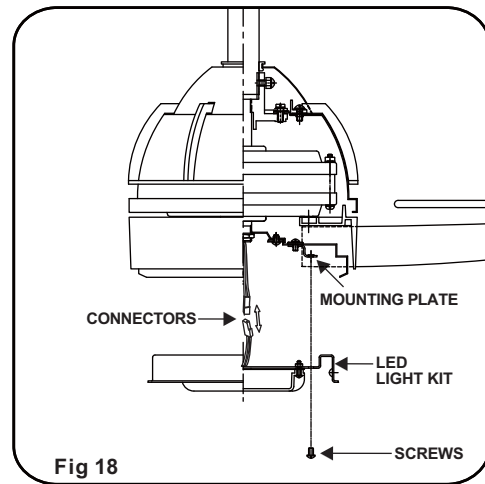

Fig 18
Step 2. While holding the LED light kit under the fan motor assembly, make the 2-pin wire connections: (Fig. 18)
Step 3. Place the key holes from the LED light kit over the 2 screws previously loosened from the mounting plate, turn light kit until it locks in place at the narrow section of the key holes. Secure by tightening the 2 screws previously loosened and the one previously removed. (Fig. 18)